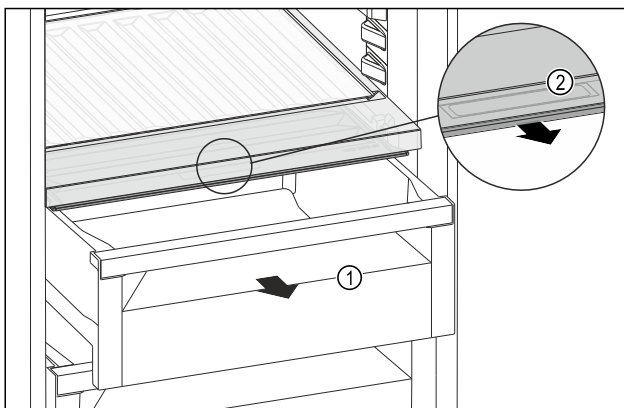

Fig. 113
- Pull out the drawer Fig. 113 (1).
- Grasp the recessed grip Fig. 113 (2) on the compartment lid and pull the compartment lid forwards at the same time.